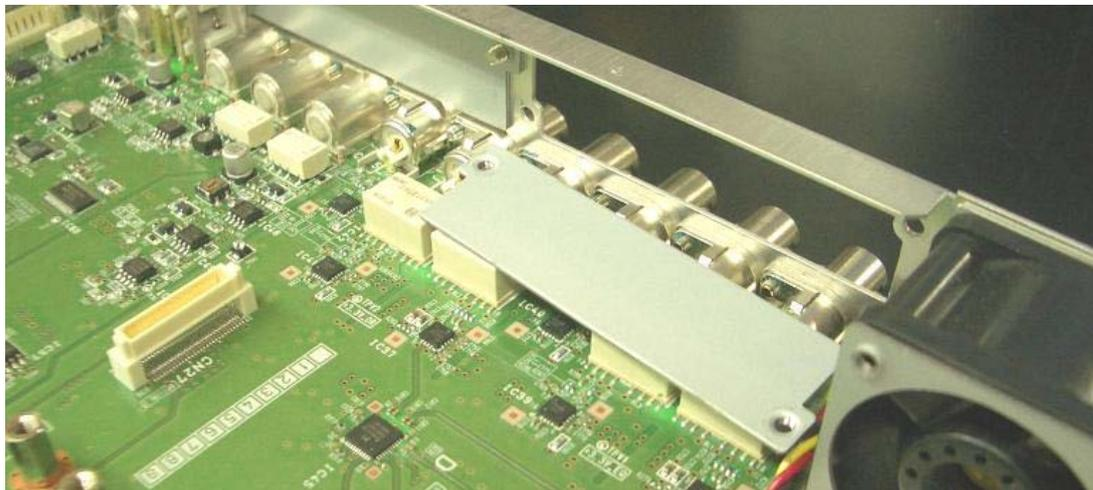

Fig. 11 Blank panel disengagement
- \* When removing screws securing the blank panel, hold the blank panel so that it does not fall inside the casing. (Fig. 11) **Turn the power of the unit off** before doing this.